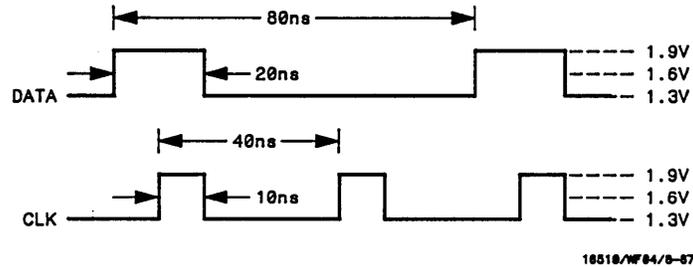

Figure 3-22. Waveforms for Clock, Qualifier, and Data Input Test 5
- Adjust pulse generator for the output in figure 3-22. Use double pulse mode of the pulse generator for the clock pulse.